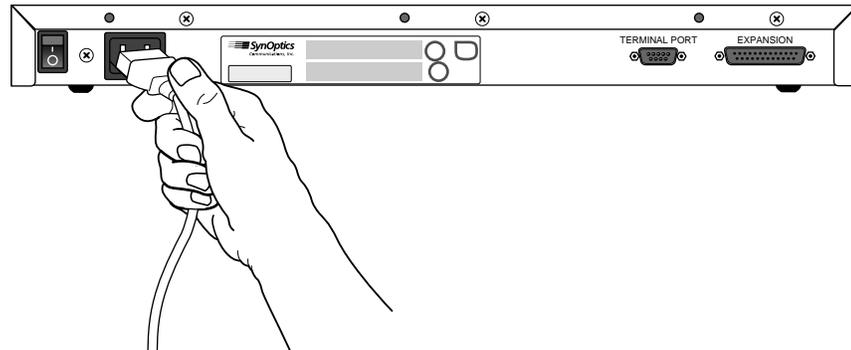

Figure 2-9. Connecting Power Cord
- 3. Connect the power cord, first to the power entry receptacle on the back of the concentrator (see Figure 2-9) and then to the power outlet.**